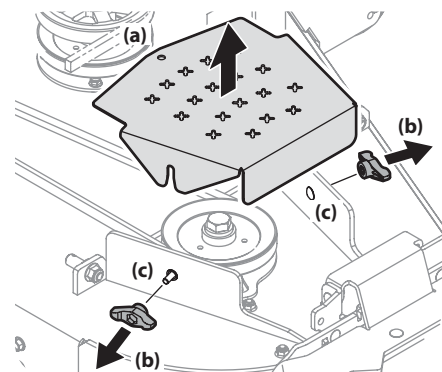

Figure 4-19
3. To remove the belt covers (a), remove the wing knobs (b) from the carriage screws (c) securing it to the deck. See Figure 4-19.
4. The speed nut should hold the carriage screw (c) and tab bolt in place, if not re-install as shown in Figure 4-19.